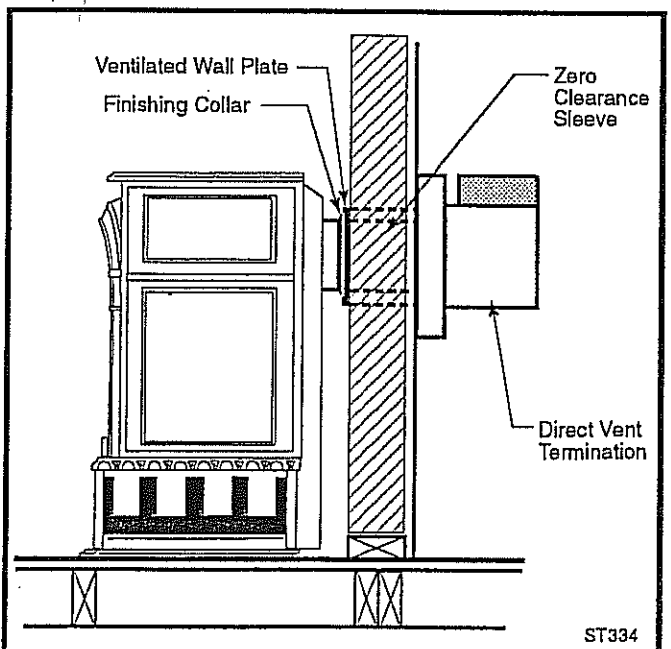

Fig. 12 Side View. PDV20 Heater with Rear Vent Kit 7TFSRSK. Maximum horizontal run may be 20" (508mm).
- The maximum horizontal run straight from the stove to the sidewall termination is 20" (508 mm). (Fig. 12)
it is very important that the venting system maintain its balance between the combustion air intake and flue gas exhaust. The installation must meet certain limits as to vent configuration. Figure 12 on Page 9 shows the minimum vent layout for a straight-back installation, with the heater parallel to the exterior wall.